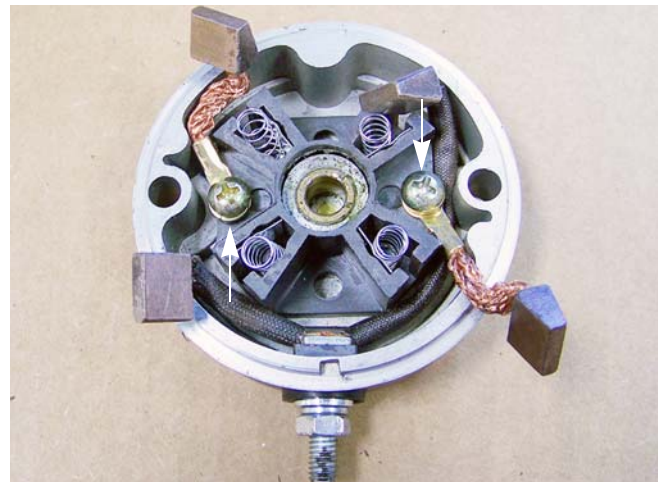

Figure 6.9
10. Remove the negative brushes by removing the two screws, indicated by the arrows in Figure 6.9., that secure them to the end cap using a #2 phillips screwdriver.